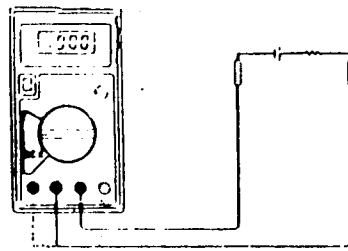

Fig 5-3 DC Current measurement
2. Set the FUNCTION switch to the DC A range to be used and connect the test leads in series with the load under measurement see Fig. 5-3.